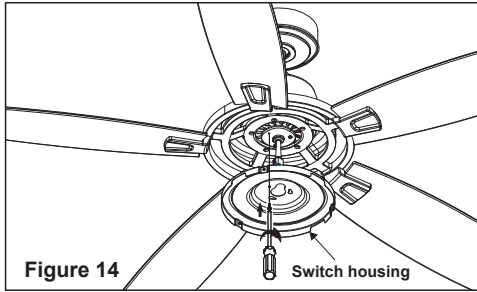

Figure 14
Step 7. Insert the wires with 9-pin connectors from the motor assembly through the center hole in the switch housing. Attach the switch housing to the mounting plate on the motor assembly by placing the keyhole slots from the switch housing onto the two protruding mounting screws heads. Adjust the switch housing until the screw heads are aligned with the keyholes, then re-install the mounting screw previously removed on step 6. Tighten all mounting screws securely. (Figure 14)